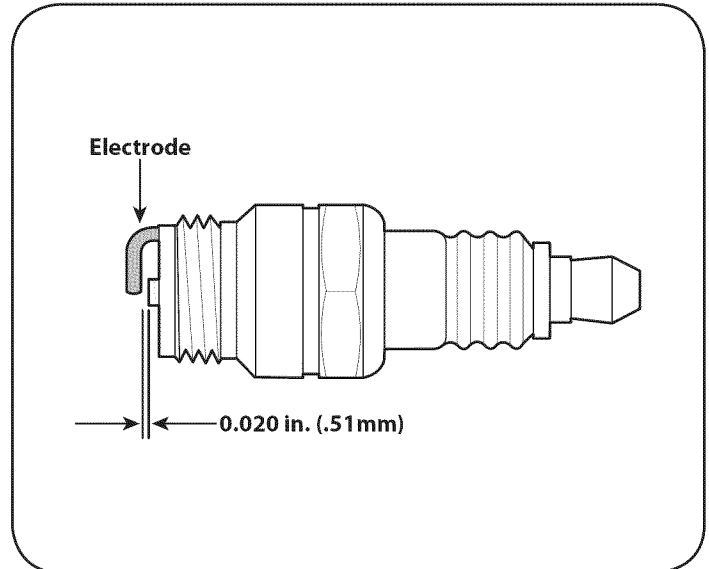

Figure 14
3. Check the gap with a wire gauge. See Figure 14. Spark plug gap should be 0.020 in (0.51 mm). If necessary, reset the gap.